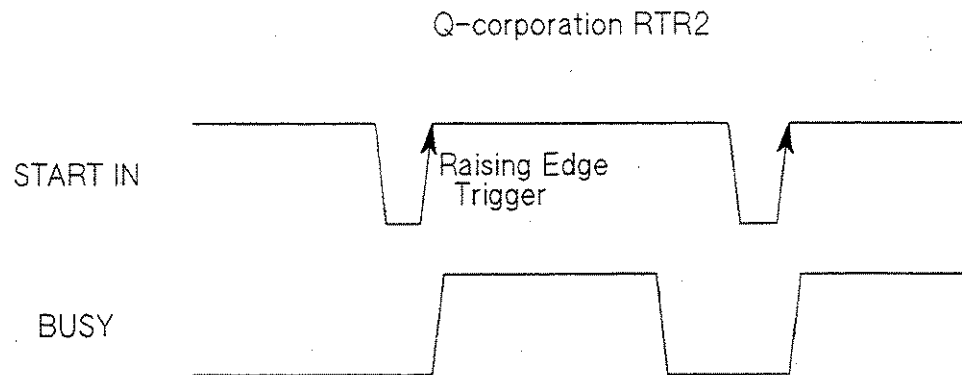

Figure 3-10. RTR2 I/O Timing
**Q-Corporation RTR2** The RTR2 timing diagram is shown in Figure 3-10 for reference.